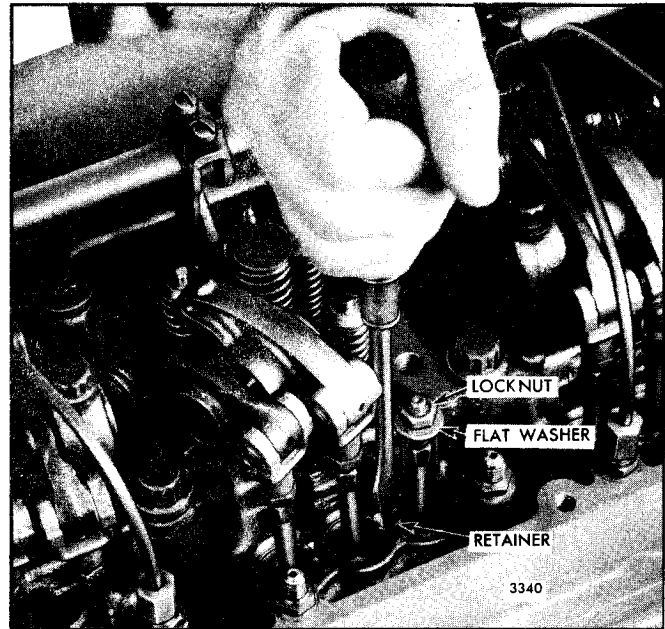

Fig. 2 - Removing Push Rod from Upper Side of Cylinder Head using Tool J 3092-01
- Remove the spring seat retainer from the groove in the cylinder head (Fig. 2).